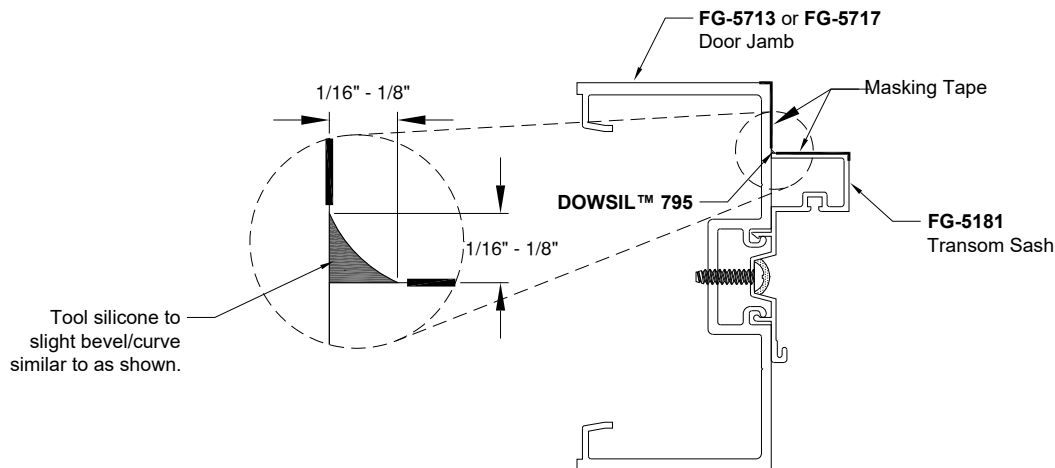

Figure 19: Installing Transom Sash
- 10.1.5 Clean Door Jamb and Transom Sash surfaces with isopropyl alcohol and mask off Sash and Jamb with 1" wide (minimum) low-adhesion masking tape. Reference *Figure 19* for masking tape locations.